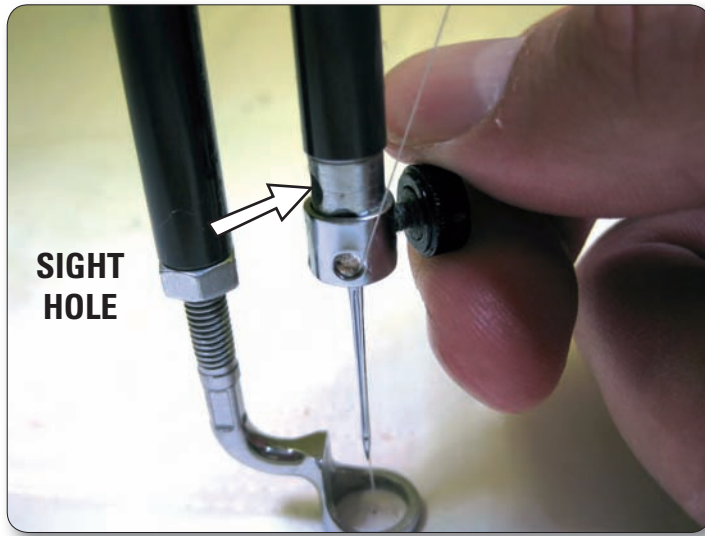

Figure 7
4. With the scarf (small ground out section/dip on the back side of the needle just above the needle eye) facing the rear hand wheel side of the machine, and the long groove down the front of the needle facing the bobbin case side (see Figure 7), push the needle all the way up into the needle bar – until it can go no farther. Look into the sight hole to verify that the butt of the needle reaches the top of the sight hole.
**Important:** Check the needle to confirm that it is fully inserted. The needle bar has a stop/sight hole above the needle bar clamp screw – make sure the needle is touching the top of the stop/sight hole (Figure 7). If it is not, the machine timing will be off and it may be possible for the needle to collide with internal parts causing damage not covered by warranty.